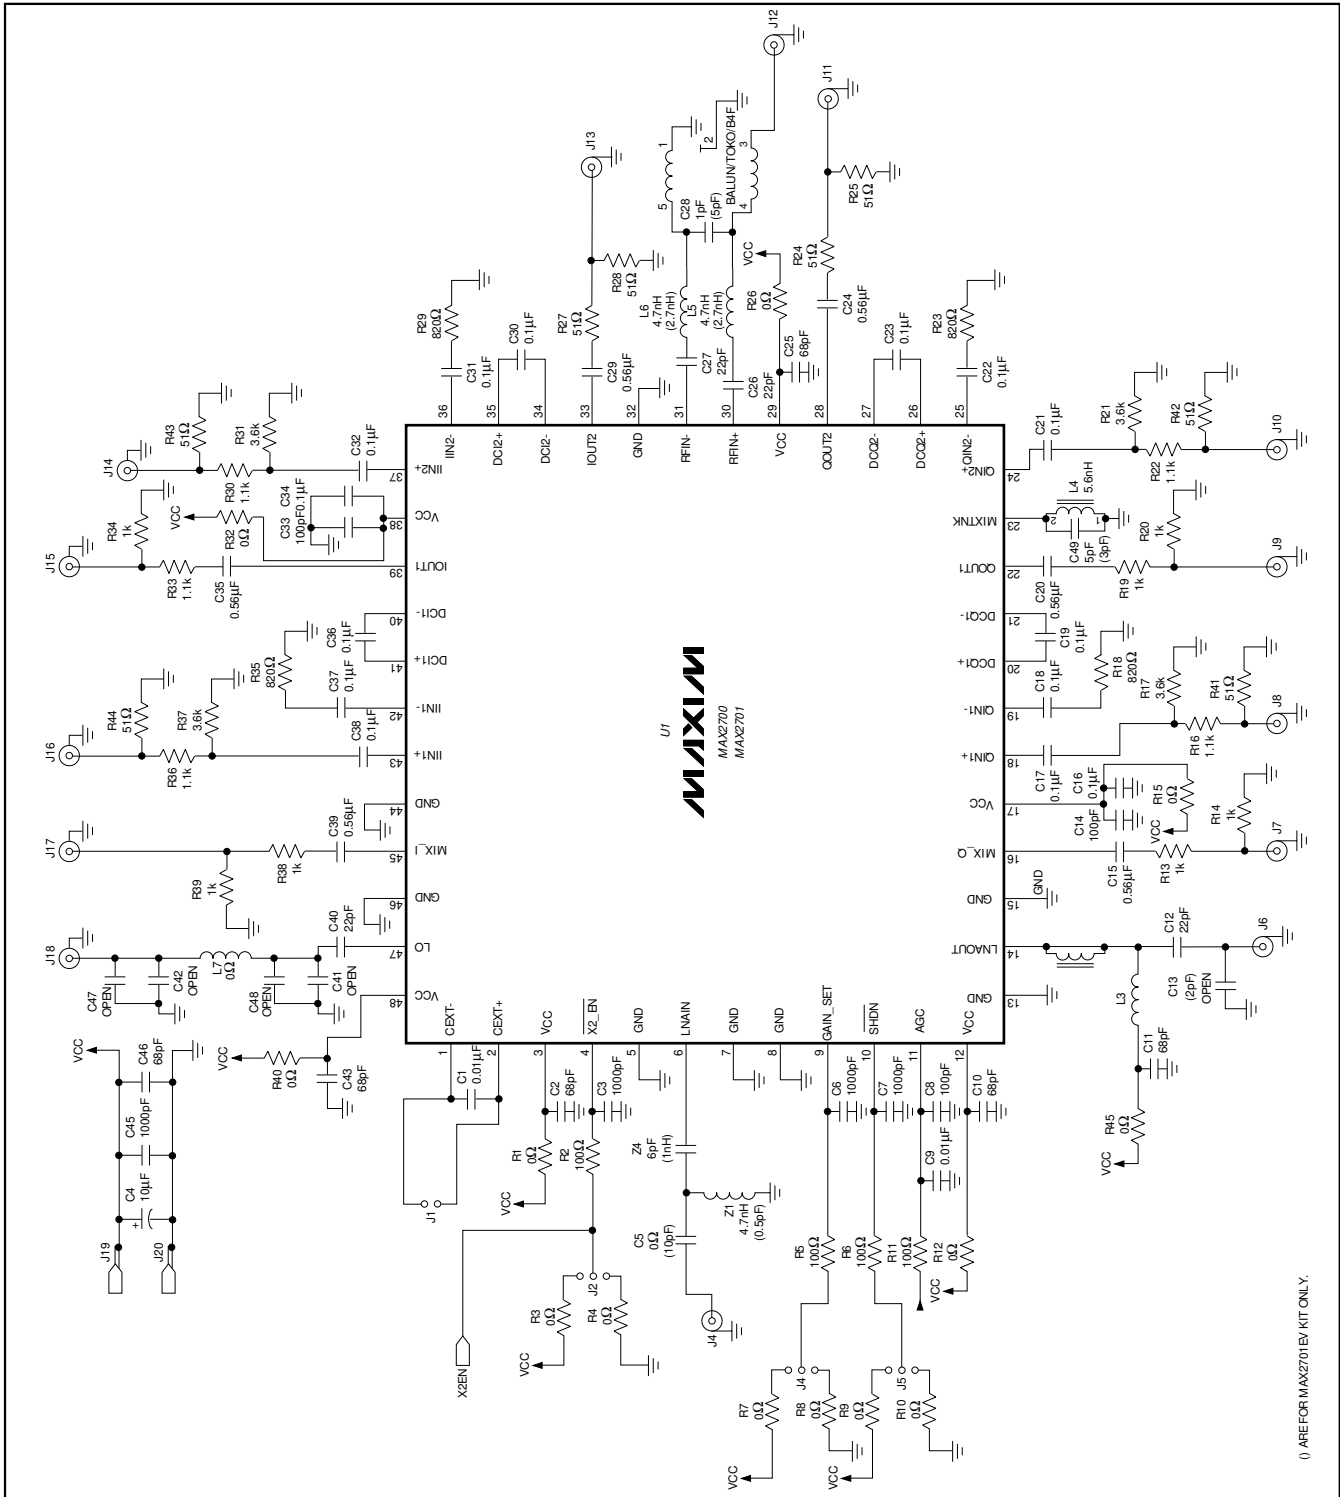

Figure 3. MAX2700/MAX2701 EV kit Schematic
(MAX2700/MAX2701 EV kit (Figure 3), $V_{CC} = +3.0V$, $T_A = +25^\circ C$, $\overline{SHDN} = GAIN_SET = V_{CC}$, $\overline{X2_EN} = GND$, CEXT+ connected to CEXT-, $P_{LO} = -13dBm$, $F_{LO} = 980MHz$ (MAX2700) and $1200MHz$ (MAX2701), $P_{LNAIN} = -30dBm$, $P_{RFIN} = -25dBm$, LNAIN and RFIN (single-ended input to balun) driven from 50Ω source, LNAOUT terminated into load; MIX_I, MIX_Q AC-coupled to $2k\Omega$ load; IIN1+, QIN1+, IIN2+, QIN2+ driven from $1.1k\Omega$ AC-coupled source; IOUT1, QOUT1 AC-coupled to $2k\Omega$; IOUT2, QOUT2 AC-coupled to 100Ω ; input to VGAs, $20mVp-p$ at $1MHz$ tone, set $V_{AGC} = 1.25V$, unless otherwise noted.)
(MAX2700/MAX2701 EV kit (Figure 3), $V_{CC} = +3.0V$, $T_A = +25^\circ C$, $\overline{SHDN} = GAIN_SET = V_{CC}$, $\overline{X2_EN} = GND$, CEXT+ connected to CEXT-, $P_{LO} = -13dBm$, $F_{LO} = 980MHz$ (MAX2700) and $1200MHz$ (MAX2701), $P_{LNAIN} = -30dBm$, $P_{RFIN} = -25dBm$, LNAOUT terminated into load; MIX_I, MIX_Q AC-coupled to $2k\Omega$ load; IIN1+, QIN1+, IIN2+, QIN2+ driven from $1.1k\Omega$ AC-coupled source; IOU1, QOUT1 AC-coupled to $2k\Omega$; IOU2, QOUT2 AC-coupled to 100Ω ; input to VGAs, $20mVp-p$ at $1MHz$ tone, set $V_{AGC} = 1.25V$, unless otherwise noted.)
(MAX2700/MAX2701 EV kit (Figure 3), $V_{CC} = +3.0V$, $T_A = +25^\circ C$, $\overline{SHDN} = GAIN_SET = V_{CC}$, $\overline{X2_EN} = GND$, CEXT+ connected to CEXT-, $P_{LO} = -13dBm$, $F_{LO} = 980MHz$ (MAX2700) and $1200MHz$ (MAX2701), $P_{LNAIN} = -30dBm$, $P_{RFIN} = -25dBm$, LNAIN and RFIN (single-ended input to balun) driven from 50Ω source, LNAOUT terminated into load; MIX_I, MIX_Q AC-coupled to $2k\Omega$ load; IIN1+, QIN1+, IIN2+, QIN2+ driven from $1.1k\Omega$ AC-coupled source; IOU1, QOUT1 AC-coupled to $2k\Omega$; IOU2, QOUT2 AC-coupled to 100Ω ; input to VGAs, $20mVp-p$ at $1MHz$ tone, set $V_{AGC} = 1.25V$, unless otherwise noted.)
*C19, C23, C30, C36 in the EV kit schematic in Figure 3 represent DC offset capacitors.